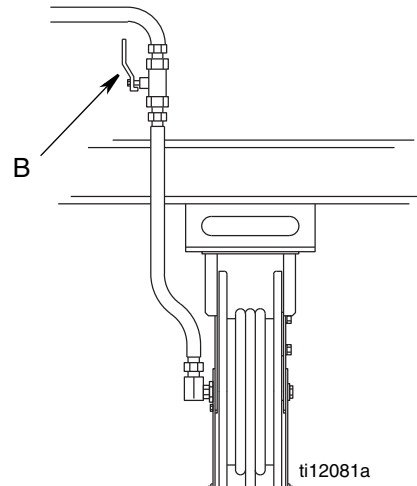

FIG. 8
4. Open all dispense position shut-off valves (B, FIG. 8) and start the pump to pressurize the system. See **Operation**, (LDM5 Meters - page 13; LDP5 Meters - page 22), for proper operation of meter.